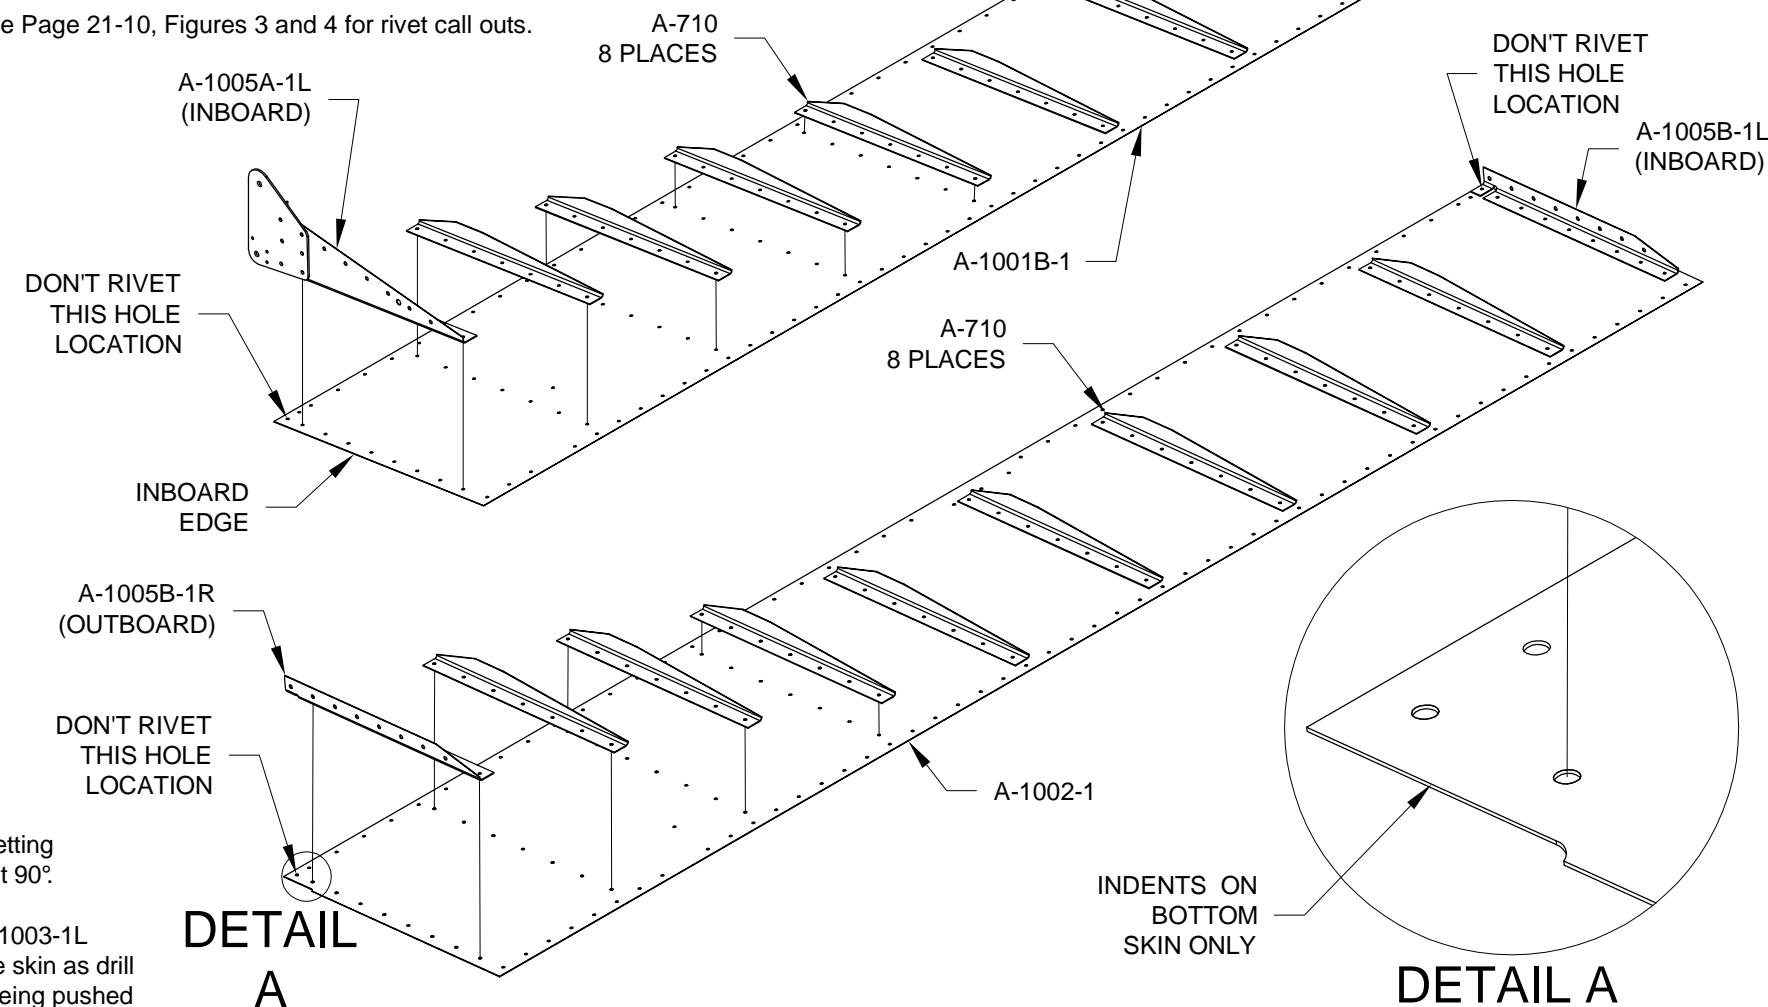

FIGURE 3: ATTACHING STIFFENERS AND MAIN RIBS TO SKINS
Step 5: Deburr and dimple the holes common to the A-710 Stiffeners, the A-1005A-1L, A-1005A-1R, A-1005B-1L and A-1005B-1R Main Ribs and the A-1001B-1 Top Skins and A-1002-1 Bottom Skins as shown in Figure 3.
See Page 21-10, Figures 3 and 4 for rivet call outs.